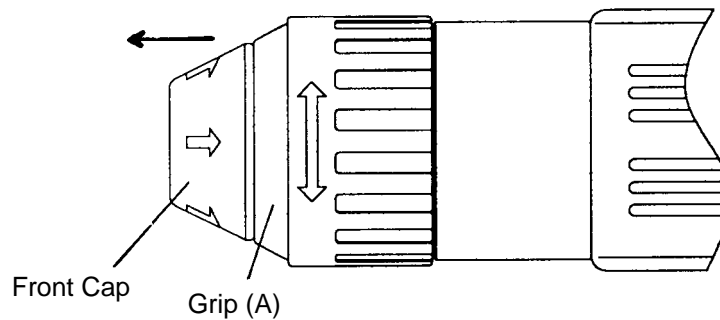

Fig. 11
Remove the Front Cap **[1]** (since the Front Cap is made of rubber, grasp its outer face and strongly pull it to remove). This allows Grip (A) **[2]** to be separated from the Retainer Sleeve **[12]**. (Fig. 11)